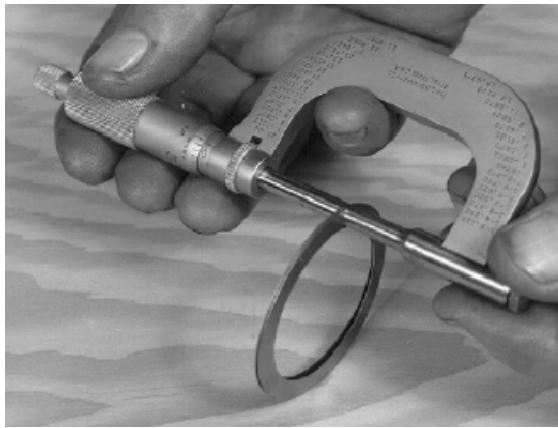

FIGURE 7-15 – BEARING SHIMS
15. With micrometer, (FIGURE 7-15, page 46), measure the thickness of shaft shim sets established in Step 5 thru 8. Be sure shims are clean of dirt and oil for true measurement.
16. Check the end of the bearing spacer for dirt and burrs. Be sure the bearing spacer is solid against the rotor. Slide shim set over the shaft extension, (FIGURE 7-15 page 46), up against the end of the bearing spacer.